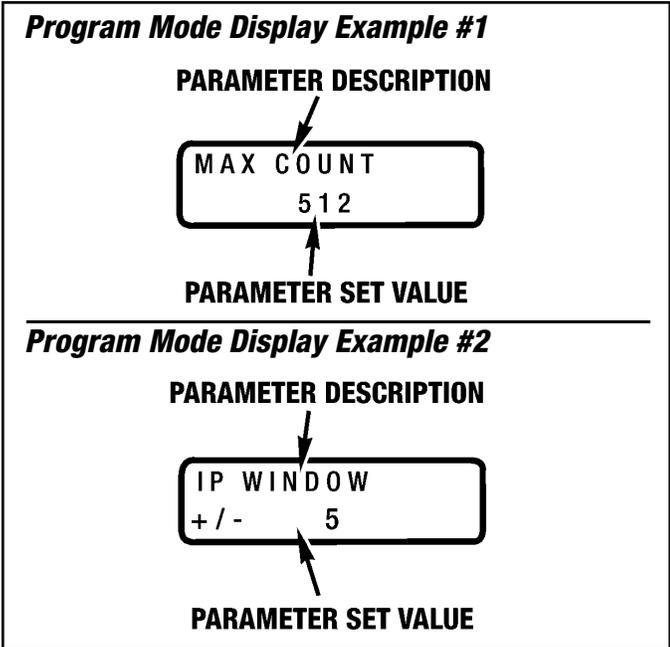

Figure 4.3 - Program Mode Display Examples
B. Program Mode (See Figure 4.3)